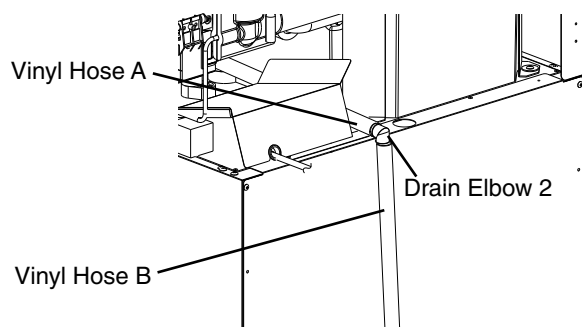

Fig. 8
10) Connect one end vinyl hose B (68 in. (1727 mm)) to the open end of drain elbow 2. See Fig. 8. Place the other end of vinyl hose B (68 in. (1727 mm)) into the heated overflow drain pan assembly as shown in Fig. 9. **NOTICE! Be sure vinyl hose B is properly positioned on drain elbow 2.**